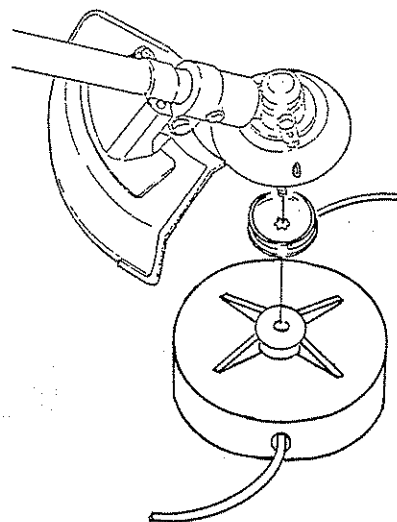

Figure 11
10. If attaching a nylon cutter head install in order shown Figure 11.